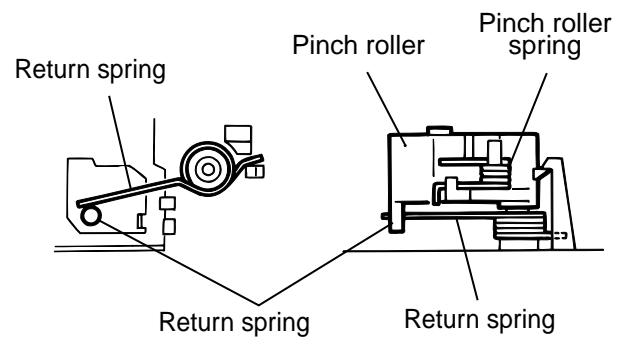

Fig.4
■Reinstall the CD tray (See Fig.4 and 5)
2. When reassembling the pinch roller, refer to fig. 4 to hook up the spring.